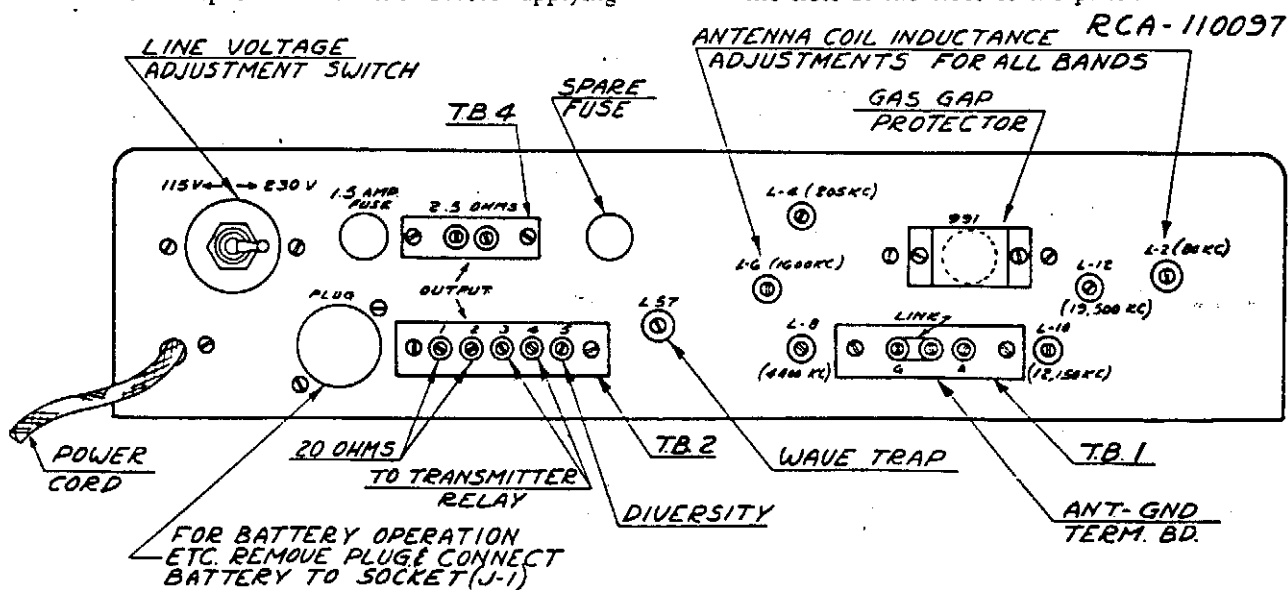

Figure 3.—General Purpose Communications Receiver—Rear Apron
- 2.2 **Input Coupling:—**The antenna coupling system is designed to provide optimum coupling from a 200 ohm transmission line, but equivalent performance is realized with a straight line antenna (see Section 4.4) with a conventional lead-in wire. The first tuned circuit is provided with a trimmer condenser adjustable from the front panel. This insures the proper tuning of this circuit with any antenna system. For all bands, conventional antenna and ground connections may also be used. The antenna terminal board is provided with three terminals (see Figures 3 and 7), two of which may be joined together with a link. When a single wire antenna is used, the link should be closed and the antenna connected to "A". If a ground is used, it should be connected to "G".
- 4.5 **Speaker:**—Terminals for connection of a loud-speaker are indicated in Figures 3 and 7. The output transformer is designed to match a p.m. dynamic speaker having 2.5 ohms impedance.
2. Transmit position which gives energized tube filaments, open plate circuits, and shorted terminals (for transmitter relay) on the speaker terminal board on the back of the chassis. (3. & 4. on T.B.-2.). Connect relay to these two terminals for transmitter operation. (See Figure 3.)
Refer to Figure 3: Connect together the terminals, marked "Diversity" of the receivers, and equip each receiver with a separate antenna. Tune each receiver to the same station as explained in Section 5.12 above.